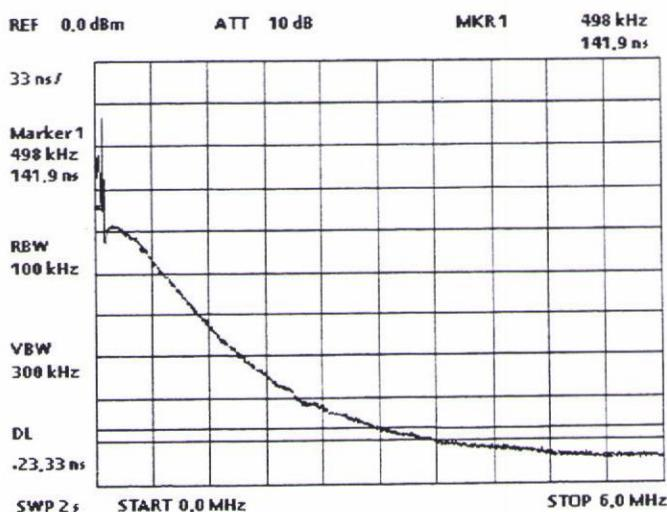

Fig. 7-5 Group delay of allpass filter 1
- Adjust the group delay with R332 so that a delay difference of approx. 141 ns is obtained between 0.5 and 3 MHz (see Fig. 7-5).